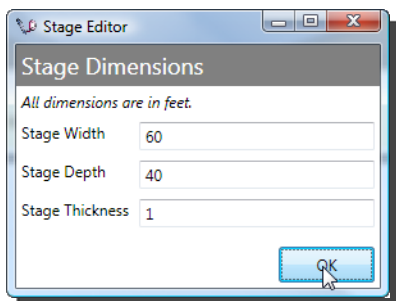

Figure 267
2. Edit the dimensions of the stage to match your physical stage and click **OK** (Figure 267). *All Stage Dimensions are in feet.*